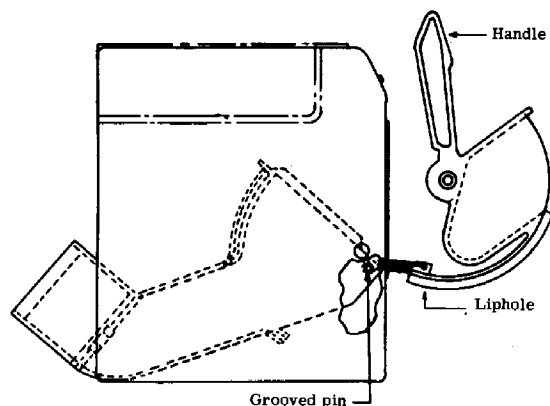

Figure 9.
- (7) Insert new escutcheon (P-11845) into coin-return opening. Place lower housing on work bench so that face of escutcheon is flush with work bench surface. Bend over escutcheon bottom flange against inside of housing.
- (8) Place lower housing upright on work bench. Place refund chute in lower housing with grooved pin to front at coin-return opening (see Fig. 9).
- (9) Insert end of coil spring into liphole of anti-stuffing device (see Fig. 9), then close up loop of spring.
- (10) Turn anti-stuffing device one-half turn so that its handle is pointing down.